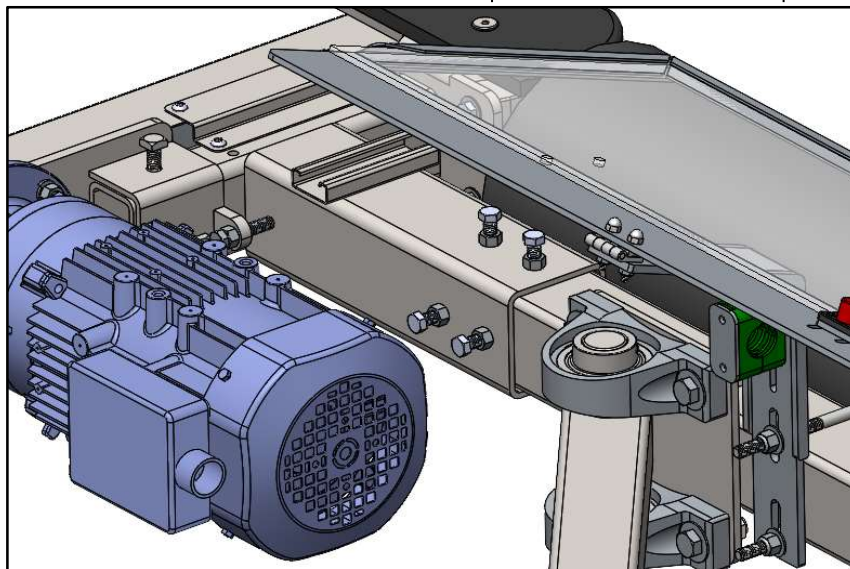

Figure 5: Mount method of second hinge mount. Note position of hinge mount relative to bearing mount plate.
7.) Move to the opposite side's hinge mount and repeat steps 5 and 6 while the other person continues to support the shield. See **Figure 5** for proper location of u-bolt and hinge mount. Again, loosely install the fasteners in order to allow for manipulation of the shield position laterally.